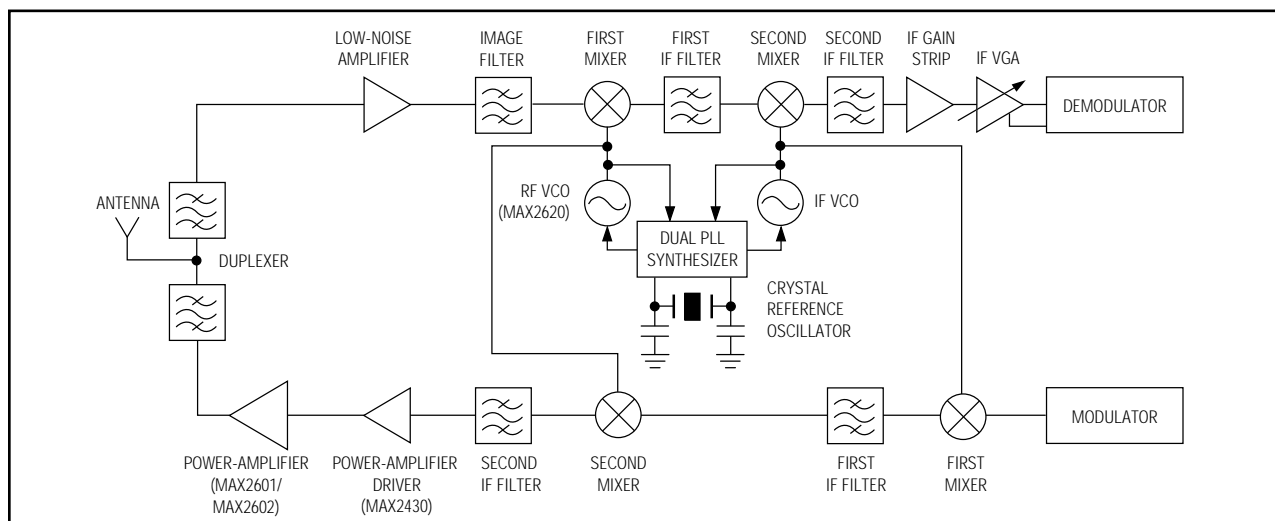

Figure 1. VCOs appear as part of the PLLs in this typical superheterodyne receiver.
The frequency of a voltage-controlled oscillator (VCO) varies with the voltage applied to its tuning port. Operating in a phase-locked loop (PLL), the VCO provides a stable local oscillator (LO) for frequency conversion in superheterodyne receivers. VCOs are also used in transmit chains, where they upconvert the baseband signal to a radio frequency (RF) suitable for transmission over the airwaves (Figure 1).